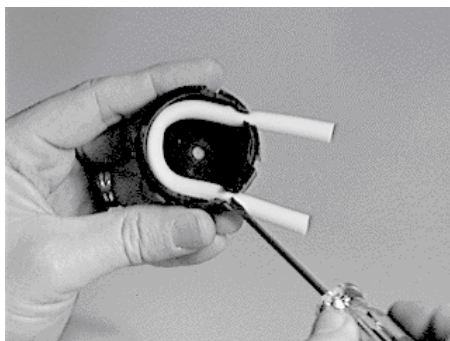

Figure 3
Step 10: Pinch the other end of the tubing and insert it into the inlet port of the pump body. Manipulate the tubing so that it conforms to the inside diameter of the pump body and **is resting on the bottom step of the pump body**. Be sure that the tubing is completely pushed down into the ports. See Fig. 3.